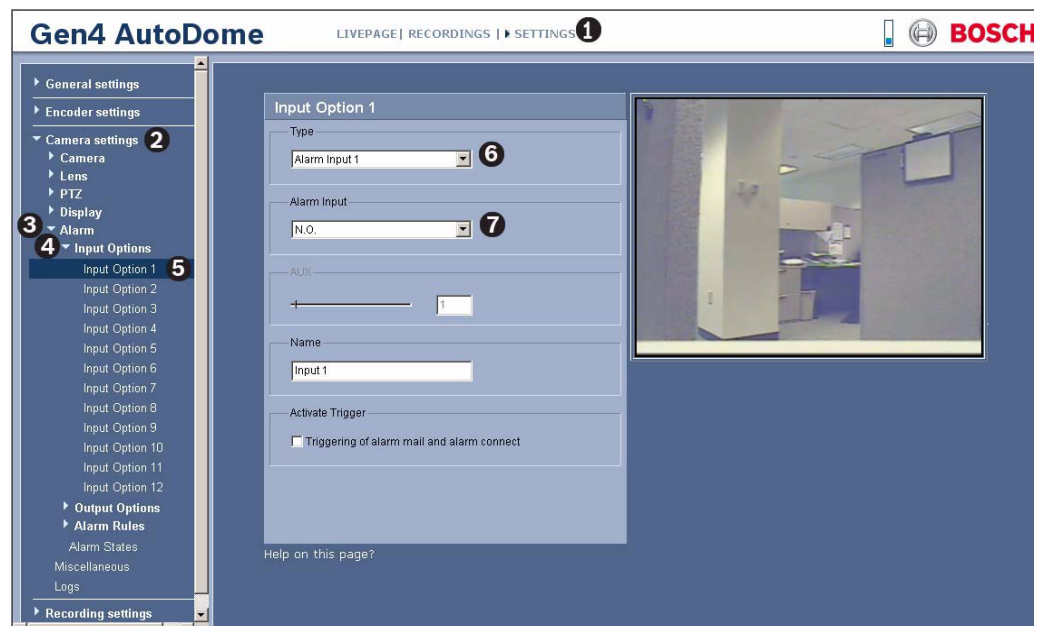

Figure 8.34 Input Options Settings Example
2. Click the **Camera Settings** link, click **Alarm**, expand **Input Options**, and click **Input Options 1**. The IP AutoDome displays the Input Options 1 screen (see Figure 8.34 below).